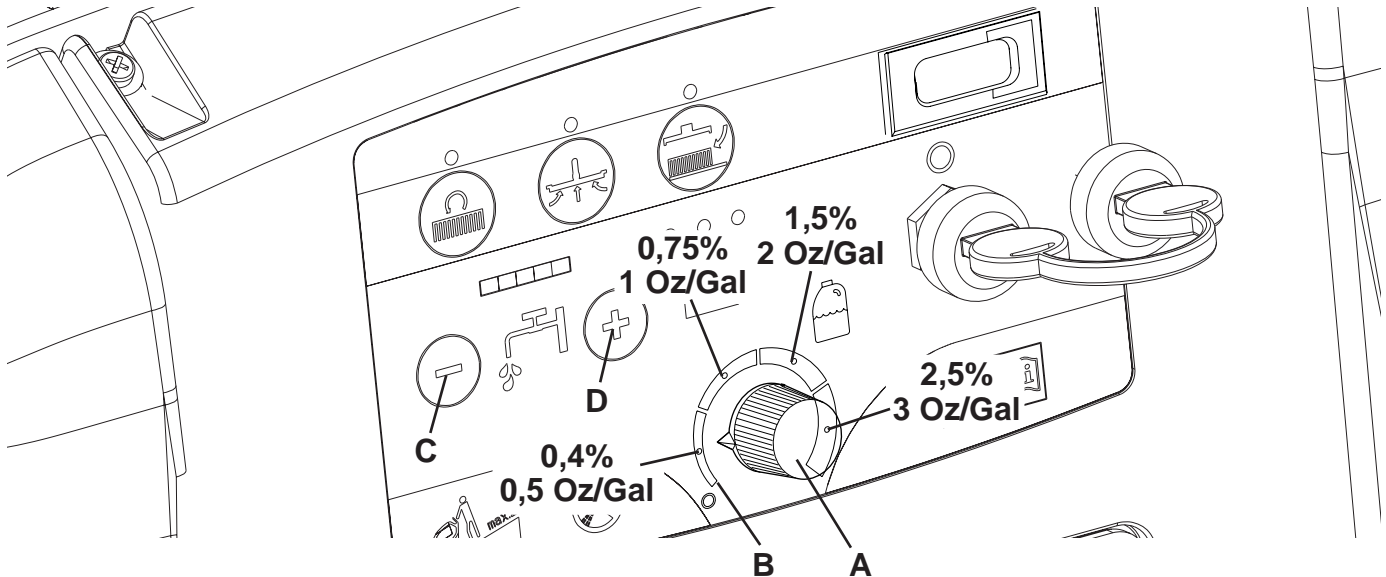

Figure 5
1. Turn the knob (A, Fig. 5) clockwise or counter-clockwise to increase or decrease the detergent concentration.
2. The average detergent concentration values, matching the 4 coloured areas of the scale (B), are shown in the figure.
3. To set the detergent quantity to zero, fully turn the knob (A) counter-clockwise.